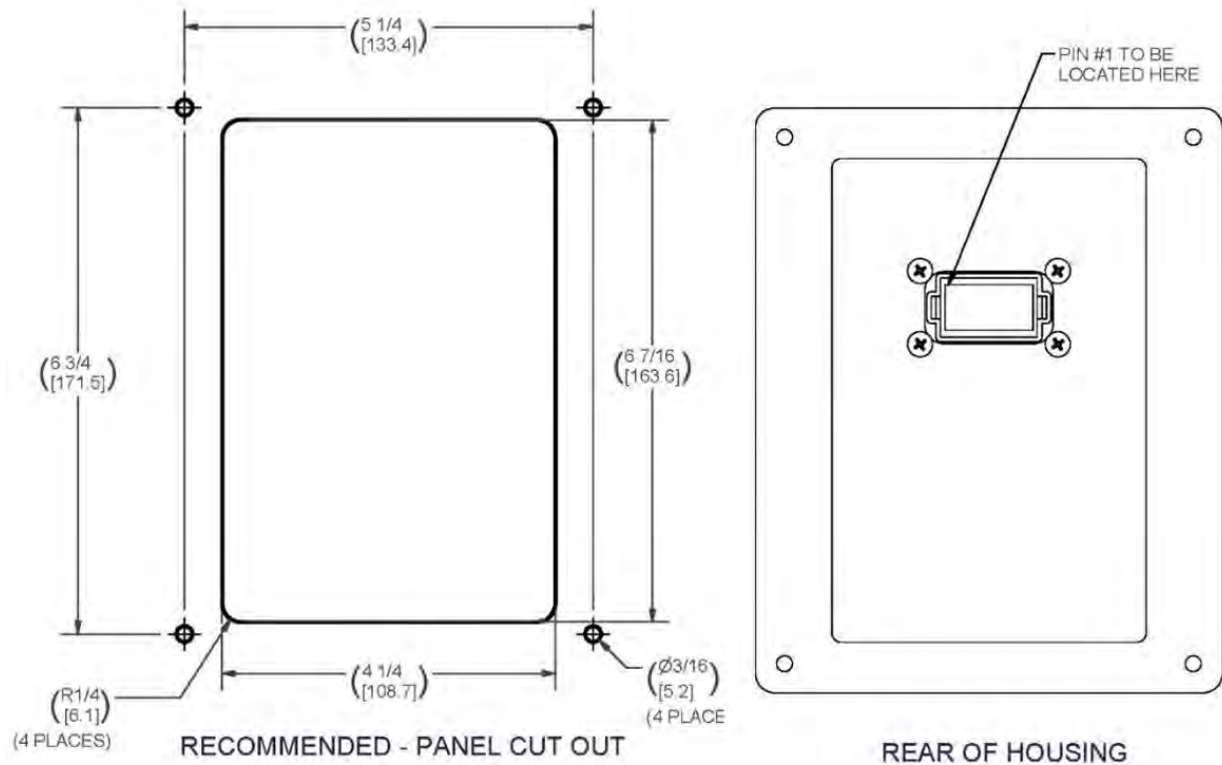

Figure 5-7 PMRC Panel Cutout Dimensions
1. Cut the panel according to the dimensions shown in Figure 5-7.